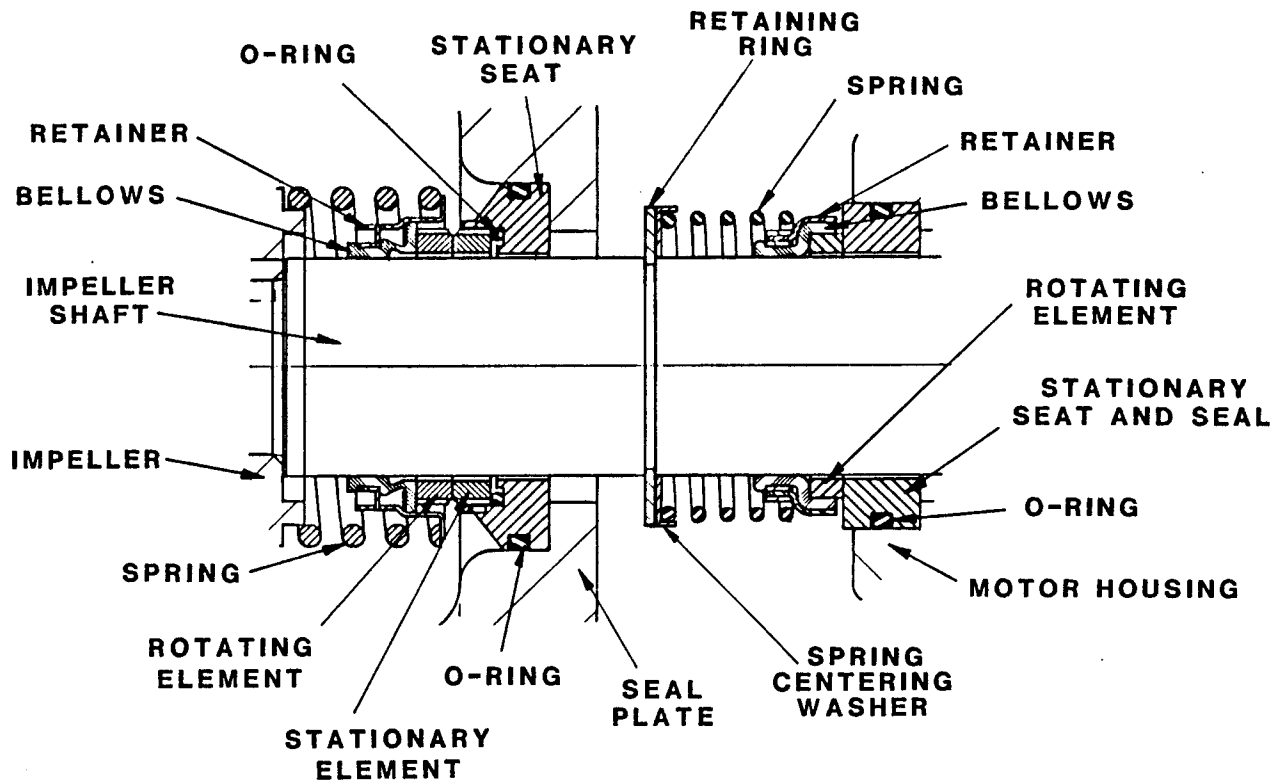

Figure 3. Seal Assemblies 46512-056 and 25284-961
Install the shaft seals as illustrated in Figure 3.
Slide the seal spring over the shaft and bellows retainer, and install the spring retainer. Install the seal retaining ring (17). See Figure 3 for proper order of seal assembly.
Unpack the stationary seat, and check that the O-rings are properly installed (see Figure 3). Press the stationary element into the seat, making sure that the grooves in the element engage the lugs on the seat. Apply a light coating of oil to the seal plate bore and the outer O-ring.
Slide the seal spring over the shaft and bellows retainer. See Figure 3 for proper order of seal assembly.